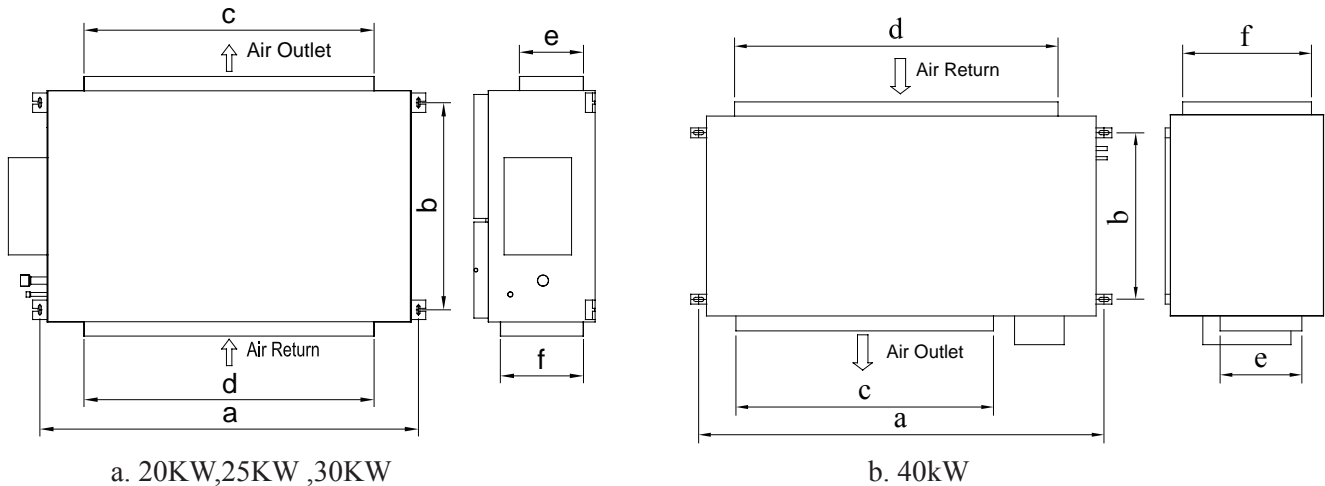

Fig. 19 Indoor unit installation position and dimension
1) The dimensions of installation hole and the intake/outlet port are shown in Fig. 19 and Table 1.
For easy drainage of the condensation water, the should be installed with a downward gradient. To avoid the condensation, the connection pipe joint should be insulated with thermal insulation material. A water seal should be employed as shown in Fig. 19 and the height of the water seal could be determined by the pressure of the drain hose.